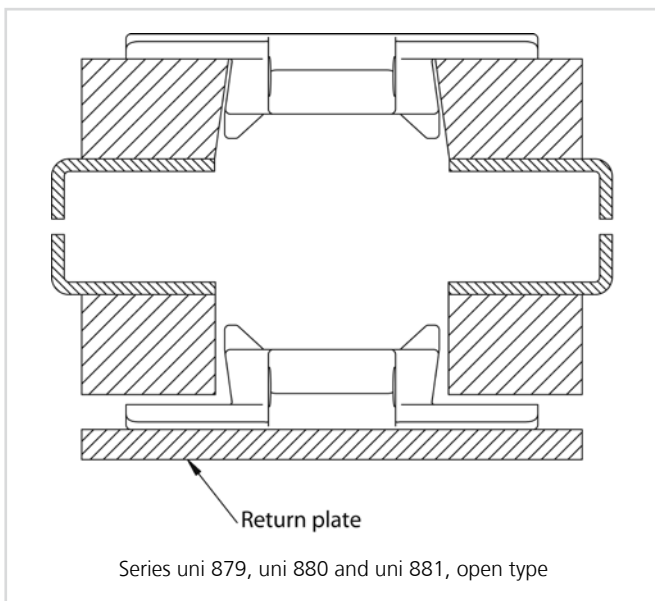
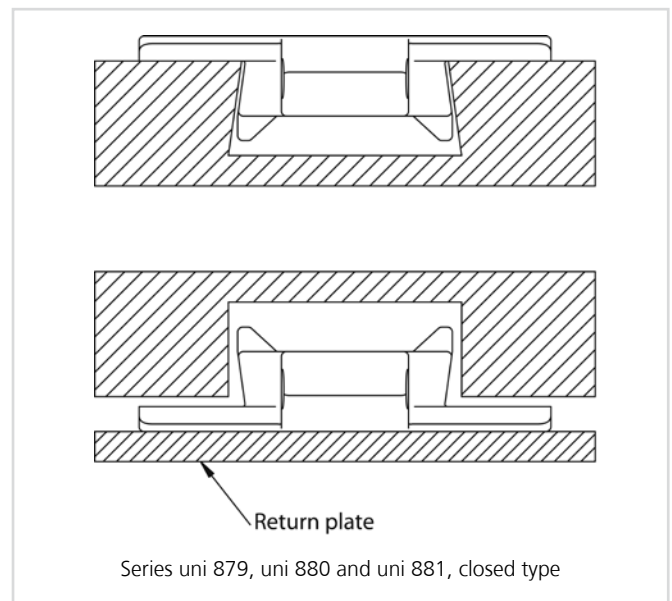

Figure 3-54
Figure 3-55
- For certain bevel type chains it is necessary to support the chain on the return, with a return plate under the chain. Figure 3-54 and figure 3-55.